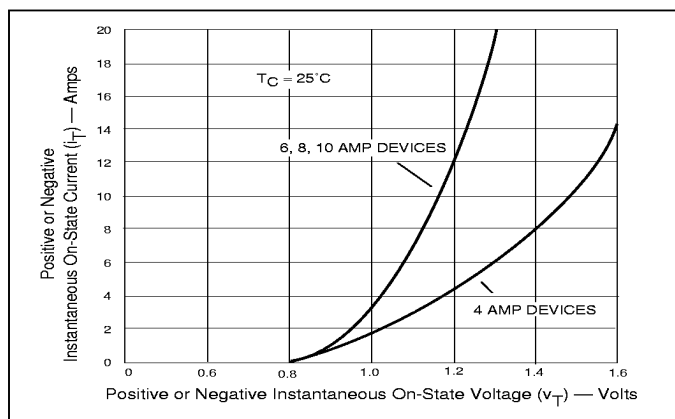

Figure 3.4 On-State Current vs On-State Voltage (Typical) (4-10 Amp)
- See Figures 3.4 and 3.5 for  $I_T$  vs  $V_T$ .